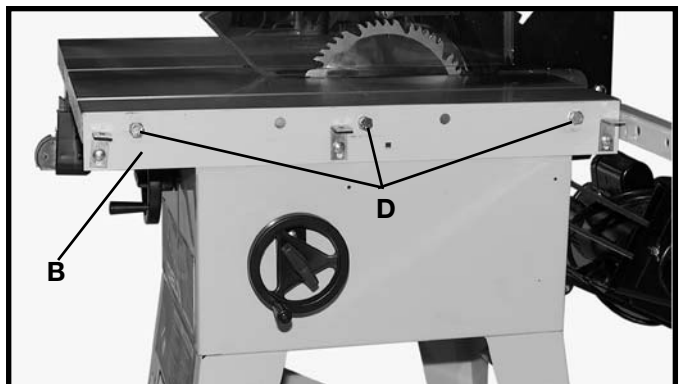

Fig. 52
8. Fasten the table adapter plate (B) Fig. 52 to the right side of the saw table. Place a 7/16" lockwasher onto a 7/16-20 x 1" hex head screw (D), insert screw through the table adapter plate and thread screw into right side of saw table. Repeat this process for the two remaining holes. **NOTE:** Before tightening screws (D), use a straight edge to make sure top of the adapter plate (B) is level with or slightly below surface of the saw table. Also make sure that the front edge of the adapter (B) does not stick out past the front edge of the saw table.